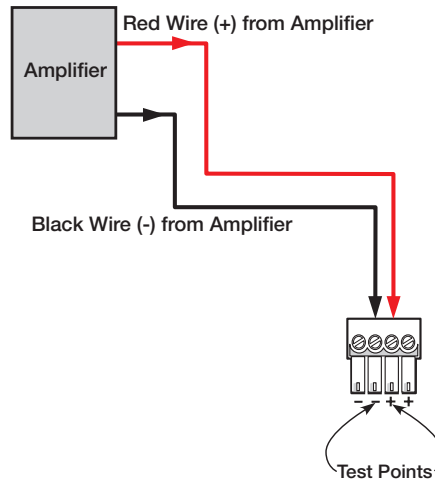

Figure 37. Signal Test Points – Loop-through Configuration
- The source signal can be tested by connecting to the inner + (IN) and – (IN) terminals of the captive screw connector, as shown in figure 37.